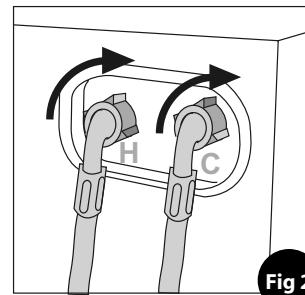

Fig 2
- Connect the 90° angled ends (20 mm thread) of these hoses to the inlet valves on the back of the machine (Fig. 2). NOTE: Water Inlet valves are color coded: Red (Hot) & White (Cold).